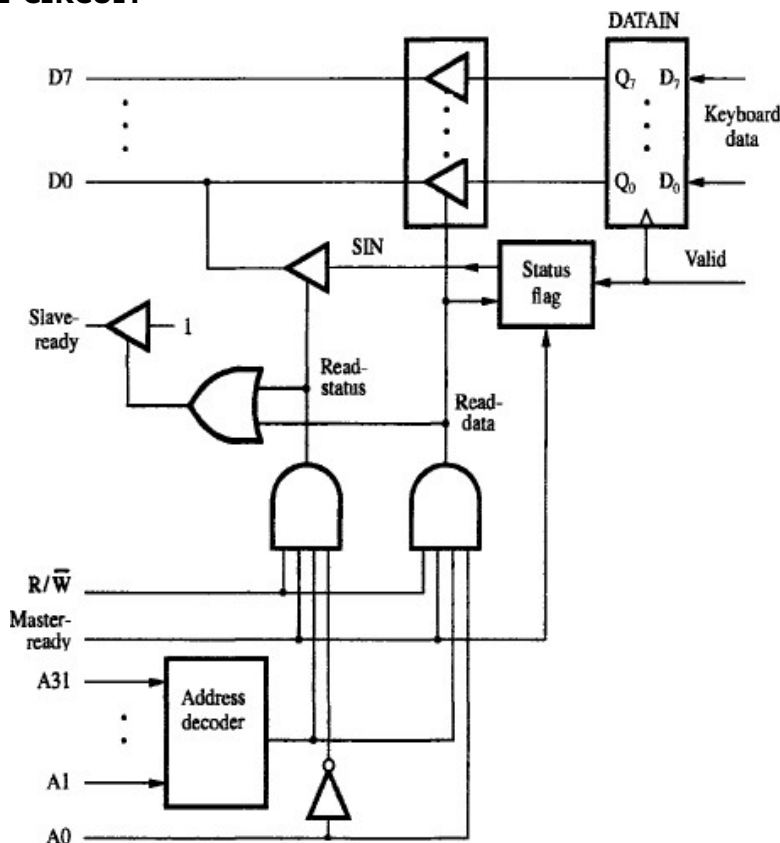

Figure 4.29: Input-interface-circuit
- Output-lines of DATAIN are connected to the data-lines of bus by means of 3-state drivers (Fig4.29).